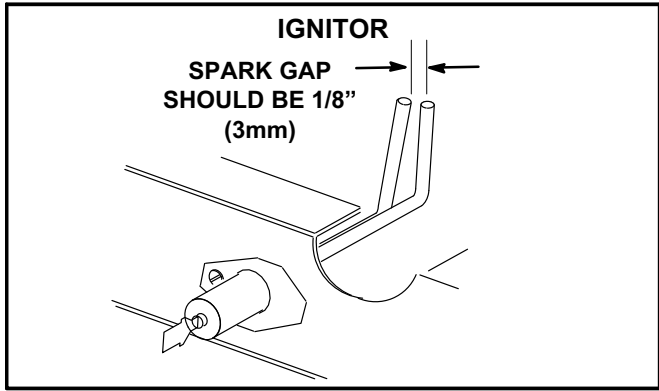

FIGURE 29
- 4- Locate the ignitor under the left burners. Check ignitor spark gap with appropriately sized twist drills or feeler gauges. See figure 29.